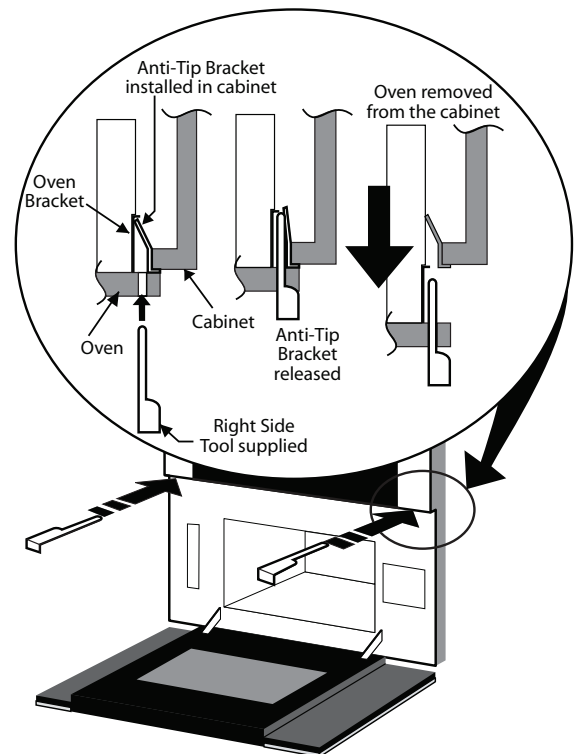

Figure 5
- To pull out the oven for servicing, open the door and locate the two holes on the side frame. Simultaneously insert the tools provided with the appliance in both holes and pull the oven towards you. See Figure 5.